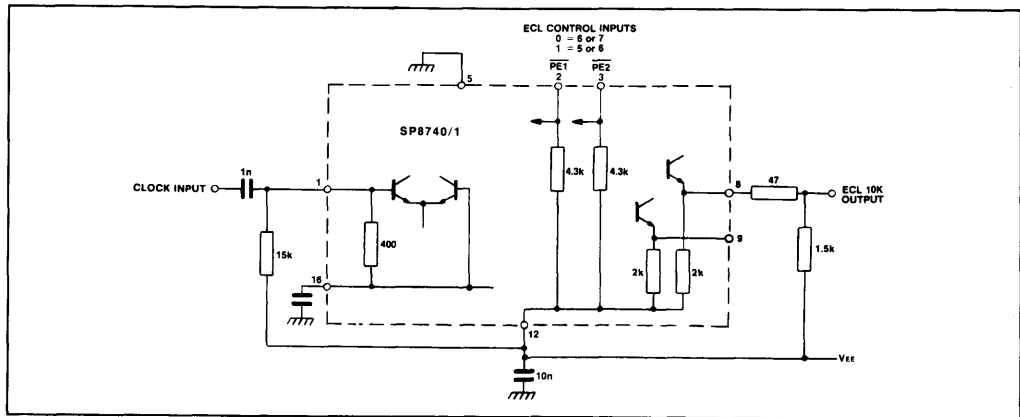

Fig.9 Typical applications circuit showing interfacing
4. The Q and \bar{Q} outputs are compatible with ECL II but can be interfaced to ECL 10K as shown in Fig. 9. There is an internal circuit equivalent to a load of 2k pull-down resistor at load output.